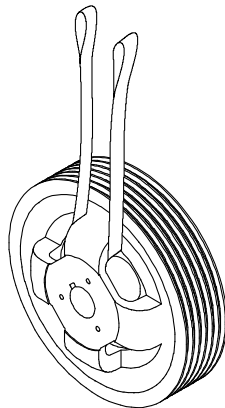

Figure 40 - Support the Drive Sheave
7. Setup rigging in the machine room to support the drive sheave and use chokers to secure the sheave. See Figure 40.